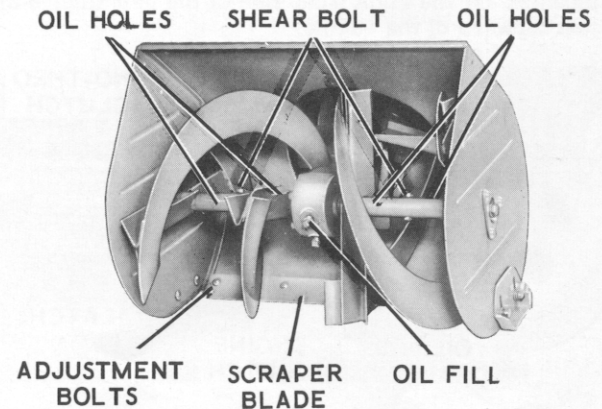

Figure 2
c. Oil rake oil holes (figure 2) every 25 hours of operation or each time a shear bolt is replaced.
An adjustable scraper blade (figure 2) is provided along the bottom edge of the blower housing. During operation, this blade runs along the surface being plowed directing the snow into the rotor and insuring a clean plowed surface. After considerable usage, this blade may wear and should be adjusted. The blade is adjusted by loosening the five nuts holding it to the housing, sliding it down to the new position and retightening the nuts. The blade is also designed so that it may be reversed if one side becomes worn beyond further adjustment.
Occasionally a small object may enter the rotor and become jammed in the blades. When this occurs the shear bolts, located on the shaft on which the rotor is mounted, will break and allow the rotor to turn freely on the shaft. Before plowing can be continued, this shear bolt must be replaced. See figure 2. **USE ONLY ARIENS SHEAR BOLTS. USE OF OTHER TYPES OF BOLTS MAY RESULT IN SEVERE DAMAGE TO MACHINE.**